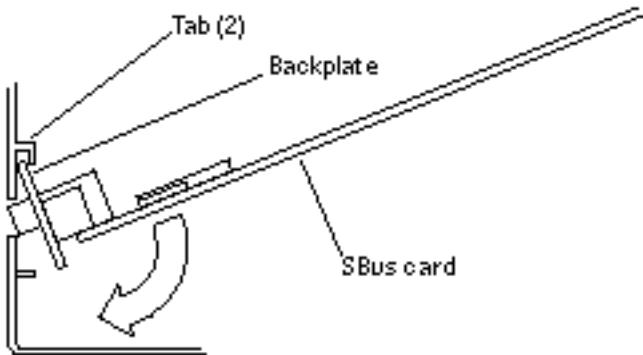

Figure 2-15 Replacing the SBus Card
5. **Slide the card at an angle into the system unit by hooking the card backplate under the two tabs on the back panel (Figure 2-15).**